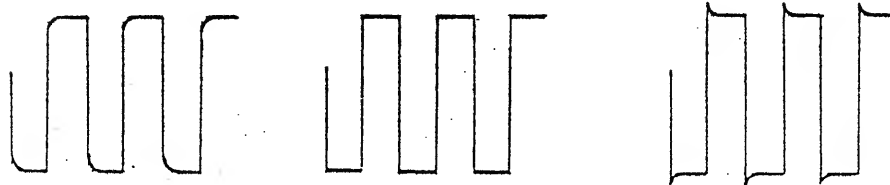

Fig. 6
- (1) A 1 kHz square-wave with  $0.1\mu\text{s}$  or less and without overshoot is required for the adjustment.
- (2) Set the VERT GAIN switch to 1/10 and adjust the square-wave amplitude for a four division display.
- (3) Adjust the semi-fixed capacitor (21) in Fig. 6 for the correct waveform.
- (4) Set the VERT GAIN switch (5) to 1/100 and adjust the square-wave amplitude for a four division display.
- Repeat the adjustment of procedure (3).